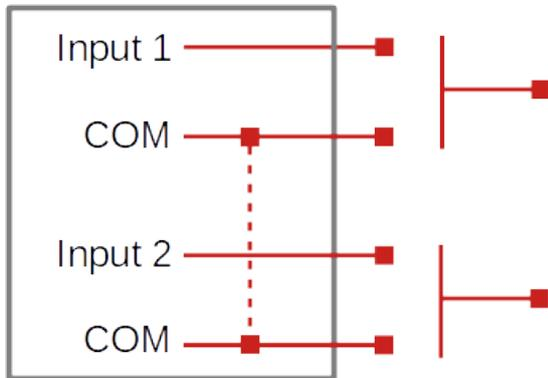

Figure 7 Isolated inputs diagram
- The isolated/potential-free inputs detect if the circuit between their terminals is closed, or they can be configured as pulse counters (water, gas counter). The user must take into account that the inputs are not isolated from each other (Figure 7).